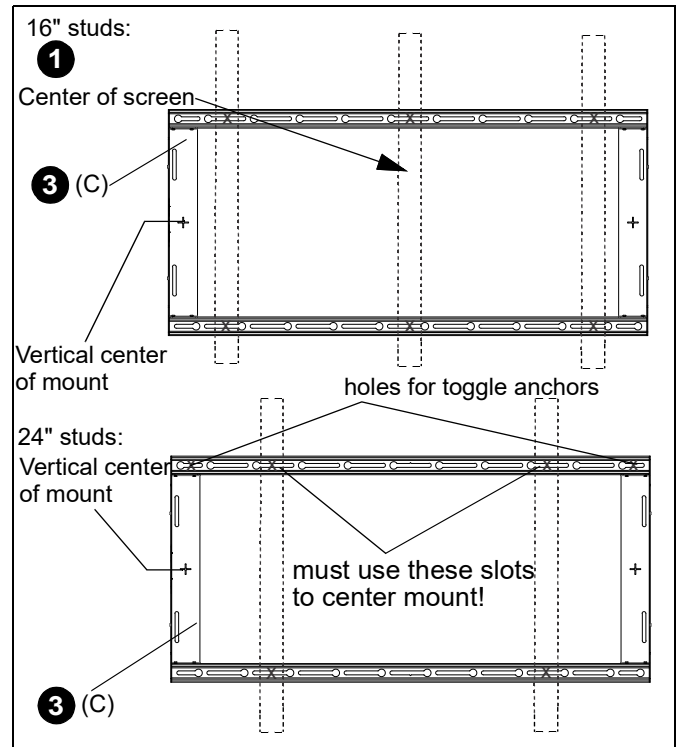

Figure 9
- Locate the closest stud to the center of the TV screen, then locate the closest stud to the left and/or right of the selected location. If installing to 16" studs, it is preferable to mount to three studs. If installing to 24" studs, it is only possible to mount to two studs and two additional toggle anchors need to be used on the outside rail holes. (See Figure 9)
- Line up the slots on rail assembly (C) with the two or three studs previously identified. (See Figure 9)